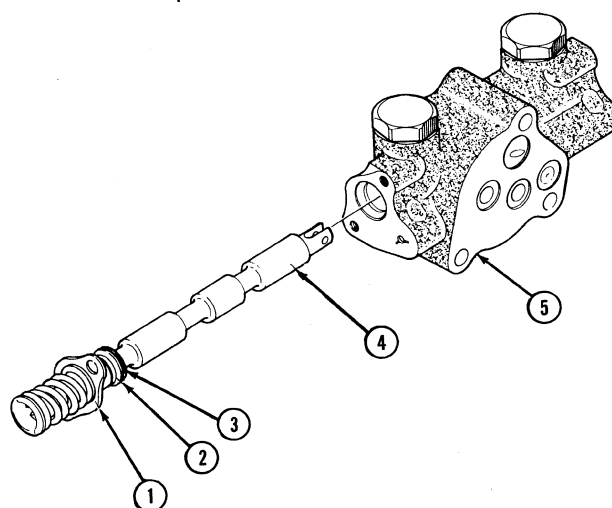

Figure 8
4. Remove the spool (4), Figure 8, from the cap side. Remove the seal plate (1), wiper (2) and O-ring (3) with the spool.